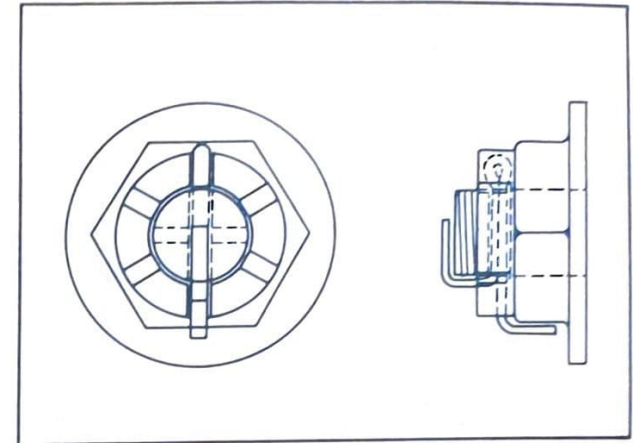

Fig. 52
6. Insert the cotter pin into the rear wheel axle nut and bend the end of the cotter pin as shown in the illustration (If the nut notch and the cotter pin hole do not match, tighten the nut slightly to match). (Fig. 52)